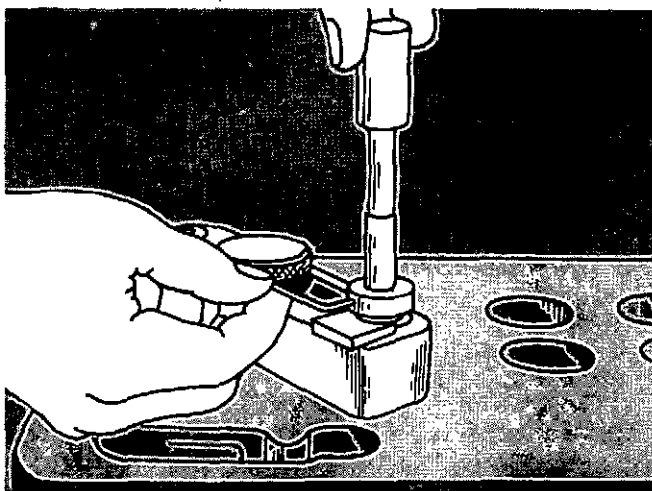

Fig. 2-18. Set The Depth Of The Cutter
- e. Slide the stop collar down against the gauge block, Fig. 2-18. Tighten the set-screw in the stop collar.